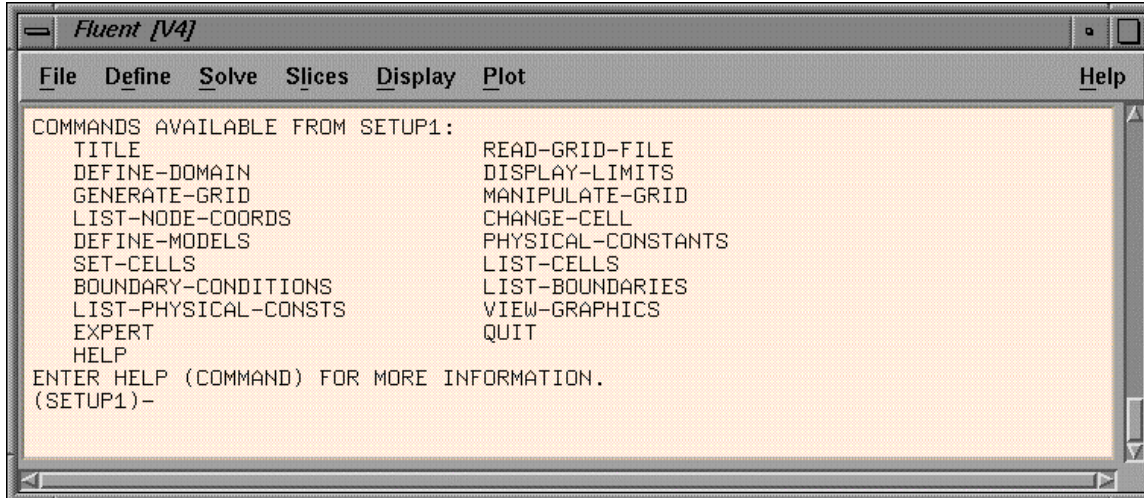

Figure 6: Setup-1 menu
- From the Fluent command prompt enter *Setup1* (figure 6).